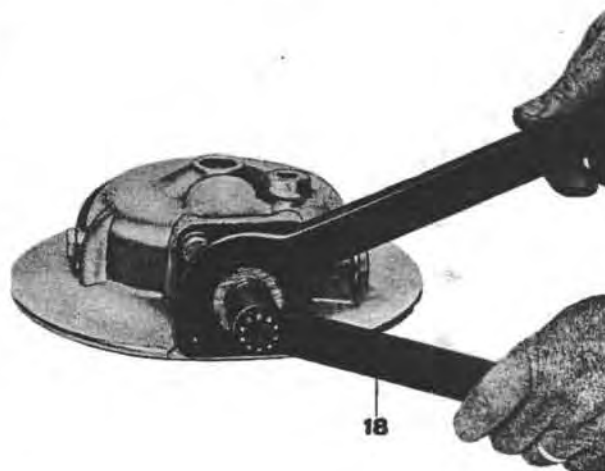

Fig. 89
- by means of tool No. 12907100 and special wrench (see 18 on Fig. 89) remove locking
- fit shim and adjusting washers on bevel pinion and insert pinion shank into bearing housing, securing it by lockring and lockring safety washer, using tool No. 12907100 and special wrench (see 18 on Fig. 89). Lockring must be locked by washer tongue after adjustment of bevel gear set.